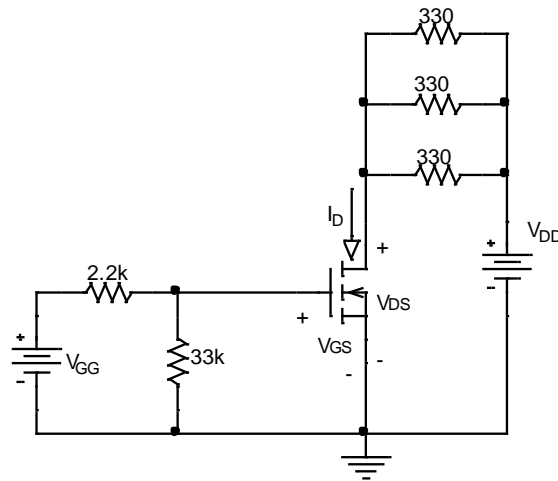

Figure 2: MOSFET circuit
- 2) Construct the circuit of figure 2. Use the HP multi-meter to measure the drain current, I_D , and the Fluke multi-meters to measure V_{DS} and V_{GS} . Use the +6 V power supply for V_{GG} and the +25 V supply for V_{DD} .